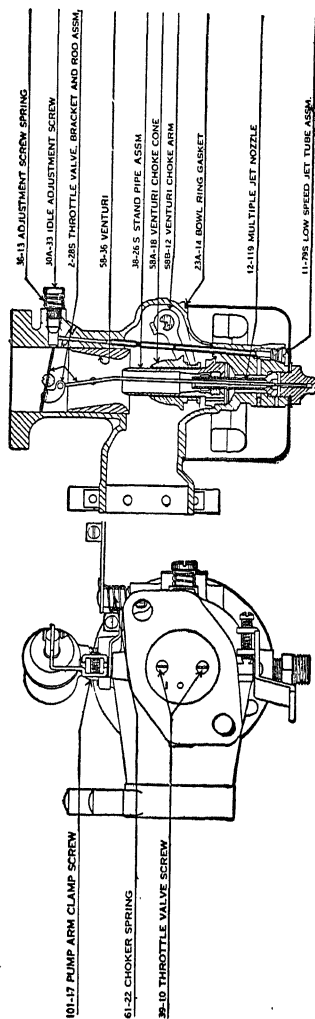

FIG. 139. Top View and Section through Venturi of the Chevrolet "Six" Carter
The carburetor is equipped with one adjustment only which is to regulate idling and low-speed mixture. This is an idle adjustment, Fig. 139, located opposite the edge of the throttle valve. Turning the adjustment screw in reduces the amount of air entering the carburetor at this point and gives a richer idling mixture. Turning it out gives a leaner mixture. The correct adjustment is from  $\frac{5}{8}$  to  $1\frac{1}{4}$  turns out. In securing a good idle on the Chevrolet "Six" engine, it is necessary to have the valves properly adjusted to a clearance of .008 inch on the exhaust and at least .006 inch on the intake, when the engine is thoroughly hot. Starting an engine and just warming it up does not get the engine hot enough to insure the proper valve clearance. If, after a hard drive, the engine does not idle smoothly, the valve clearance should be checked at that time and correct setting made. This will insure proper seating of valves at all times and will greatly increase the efficiency and life of the engine.
**Carburetor Operation.** The low-speed jet assembly, Fig. 139, supplies gasoline to the engine at idle engine speed and up to approximately 20 miles per hour, gasoline flowing through a drilled passage
**Carburetor Adjustment.** The adjustment is properly set when the car leaves the factory and should not be changed until the engine is thoroughly run in. If necessary, the carburetor may then be re-adjusted. To adjust the idling mixture, retard the spark—open idle adjustment screw, Fig. 139, five-eighths to one and one-quarter turns or until the engine hits evenly without loading or missing. Turning this screw in gives a richer mixture.